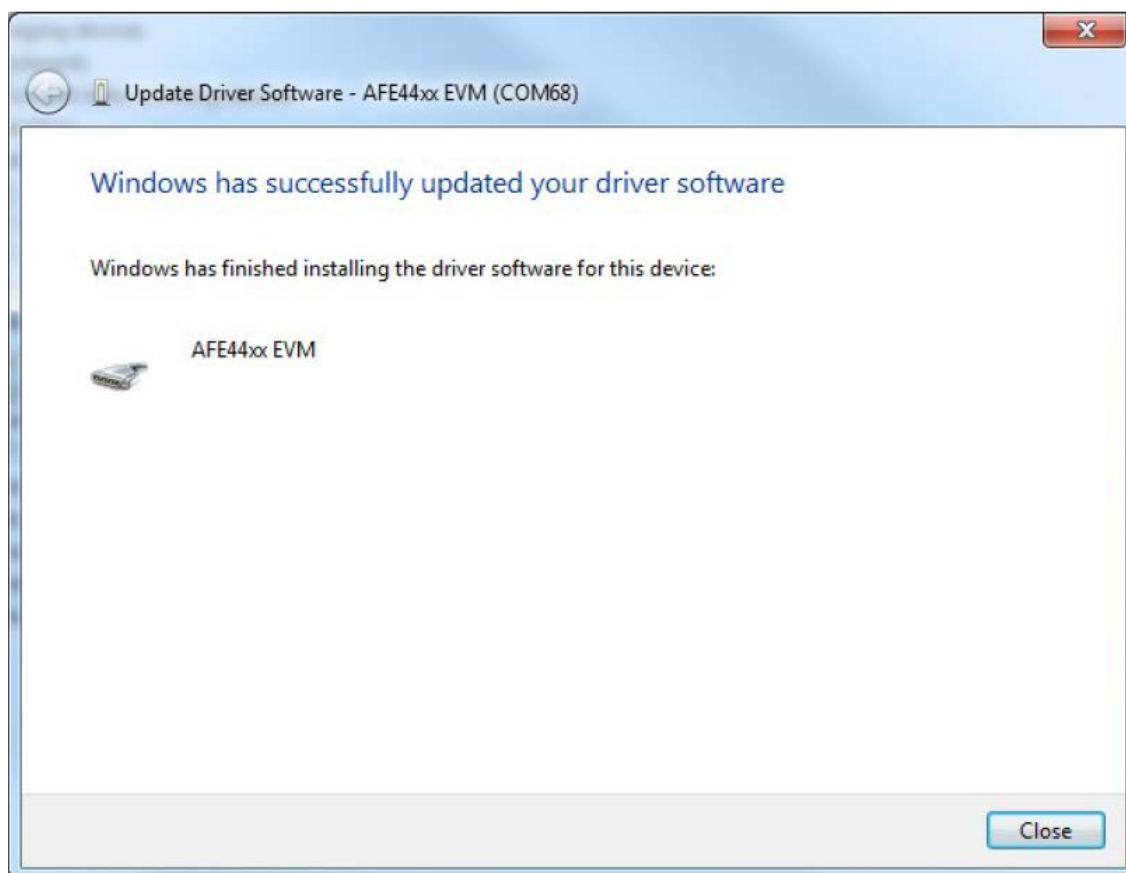

Figure 19. USB Driver Installation - Screen 4
- Click the **Close** button once the driver installation is complete (Figure 19).